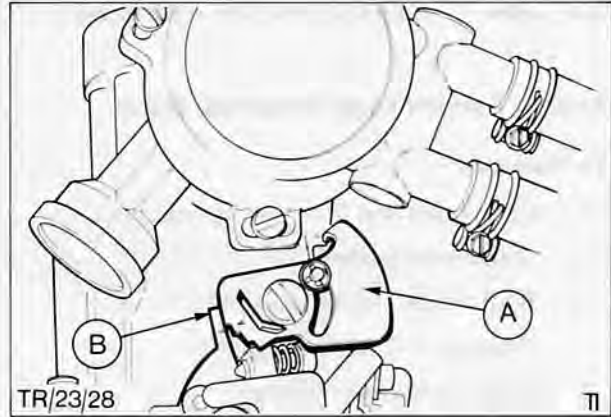

Fig. 51. Autochoke mechanism set in the 'high cam' position
- (ii) Manually hold choke plate fully closed, then partially open throttle to allow fast idle cam to locate in the 'high cam' position. Release throttle to hold cam in this position, Fig. 51. Release choke plate.